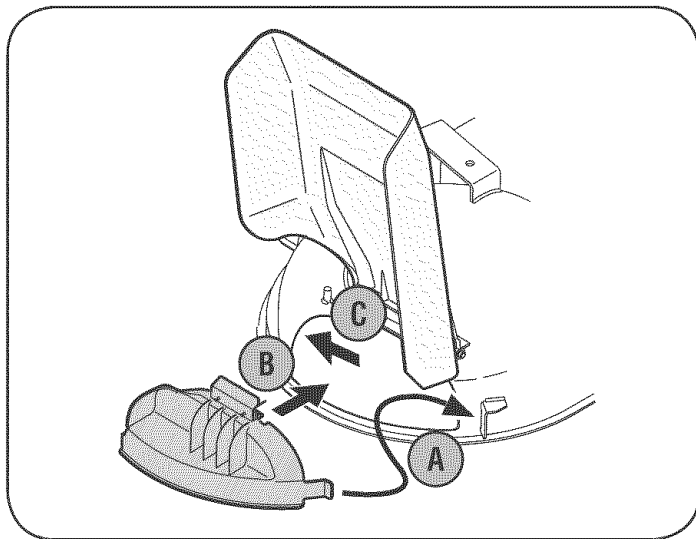

Figure 8
3. To install the mulch plug, insert the right-side tab (A) of the plug into the bracket on the deck, Figure 8.
4. Insert the cover into the discharge opening (B), Figure 8.
5. After the mulch plug has been placed into the deck opening, push the plug towards the rear of the mower (C) to fit the plug properly into the opening, Figure 8.